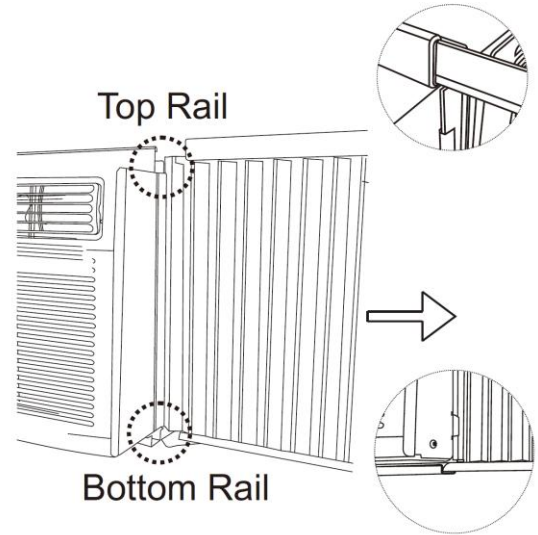

FIG.3
- Once the panel has been installed on the side of the cabinet, make sure it sits securely inside the frame channel by making slight adjustments. Slide the top and bottom ends of the frame into the top and bottom rails of the cabinet. See Fig.3.